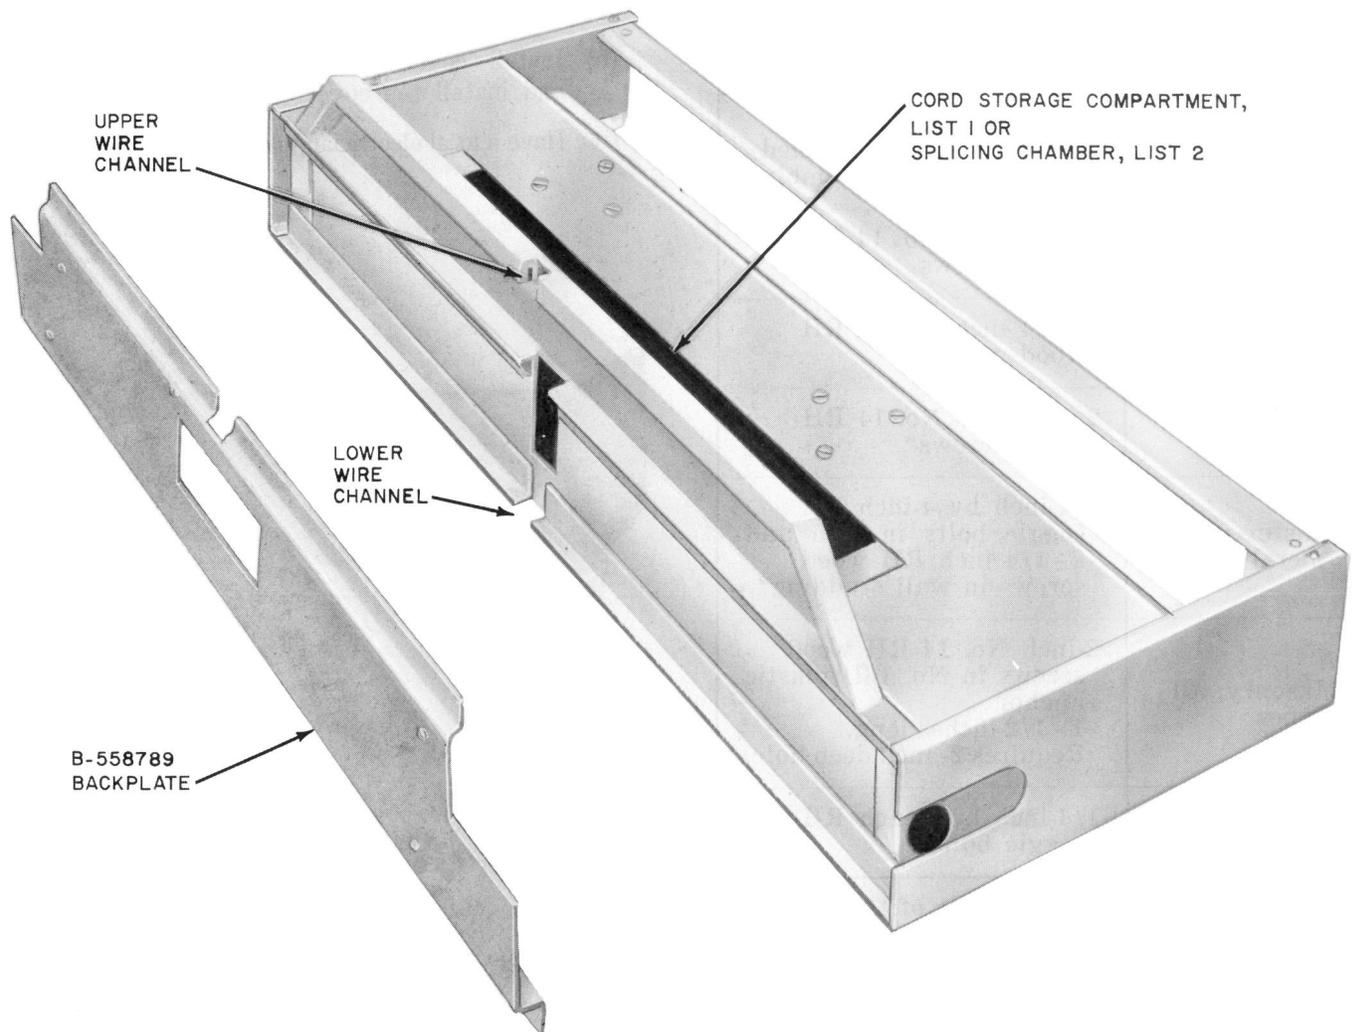
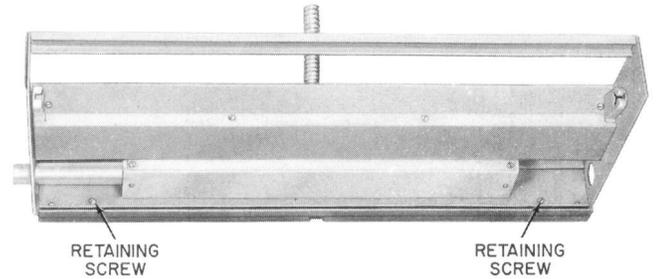

Fig. 12—KS-19322 Sign With Top Cover Removed
Fig. 15—KS-19322, List 2 Sign—Bottom View
3.10 the backplate (Fig. 12) must be securely fastened to the mounting surface.
- (b) Insert the power cord through the hole in the rear wall of the cord storage compartment (Fig. 12).
- (1) If the upper wire channel (Fig. 12) is utilized, remove lower knockout in support.
- (2) If the lower wire channel is utilized, remove upper knockout in support.
- (e) Place two No. 8-32 by 5/16 RHM screws in the two threaded holes located near the lower corners of the rear wall (Fig. 15) to prevent sign from being removed from backplate.